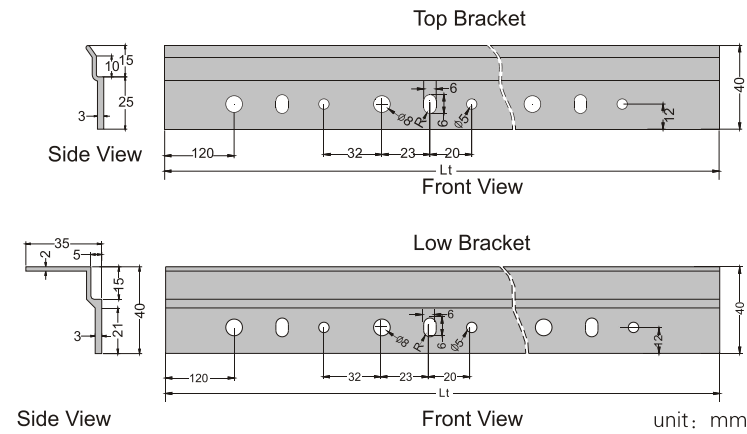

figure 8
1.Each screen has a set of bracket. Each bracket has a number of corresponding holes and 3 holes per group, Please refer to figure 8.